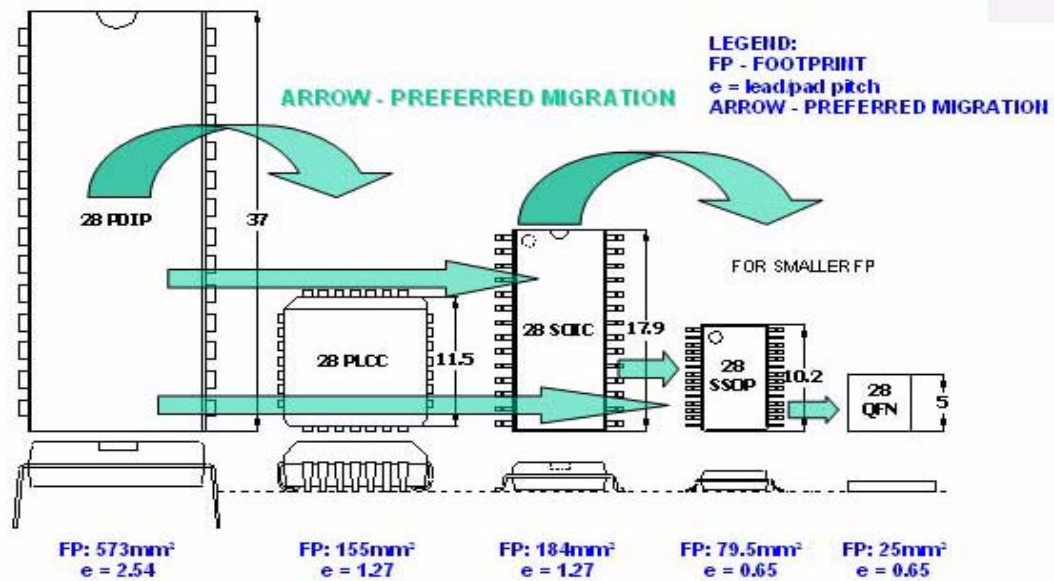

Figure 54. 28-Lead Migration
- 28-lead (Figure 54 on page 51)